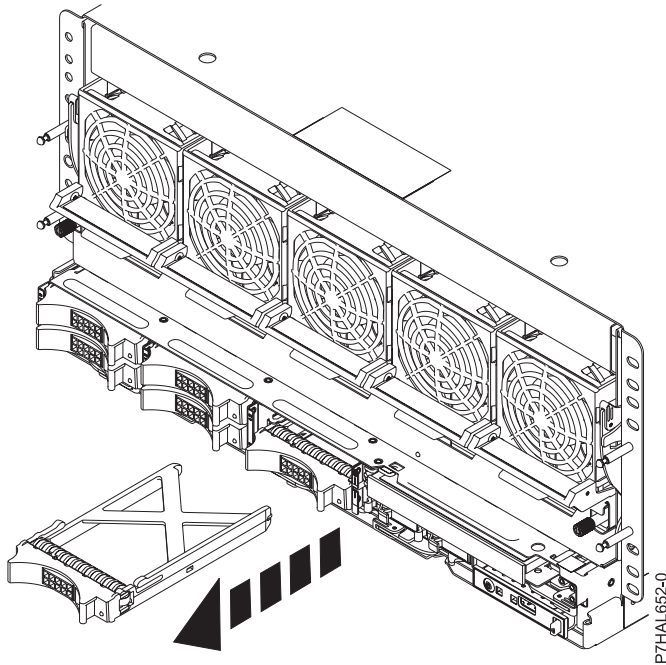

Figure 45. Removing a disk drive filler from the system
2. Hold the filler handle (A) and pull out the disk drive filler from the slot, as shown in Figure 45 on page 76.